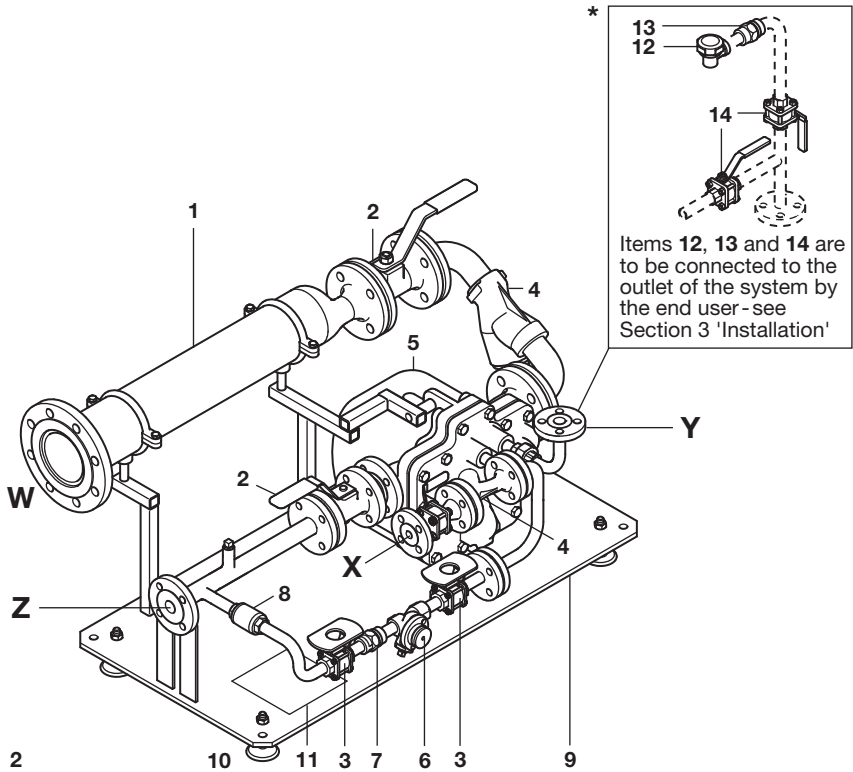

Fig. 2
3.3 Connections (refer to Figures 2 and 6)